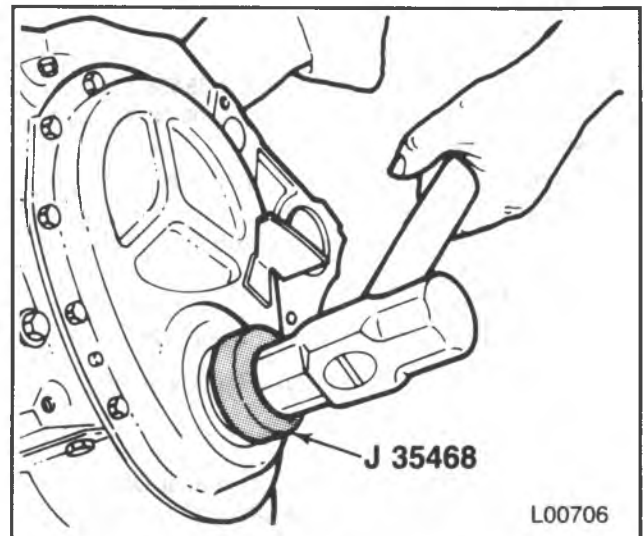

Figure 17 — Installing the Front Crankshaft Oil Seal
Install or Connect (Figures 17 and 18)
2. Front crankshaft seal using J 35468 (figure 17). The open end of the seal faces inside the engine. Coat the seal lips with engine oil.